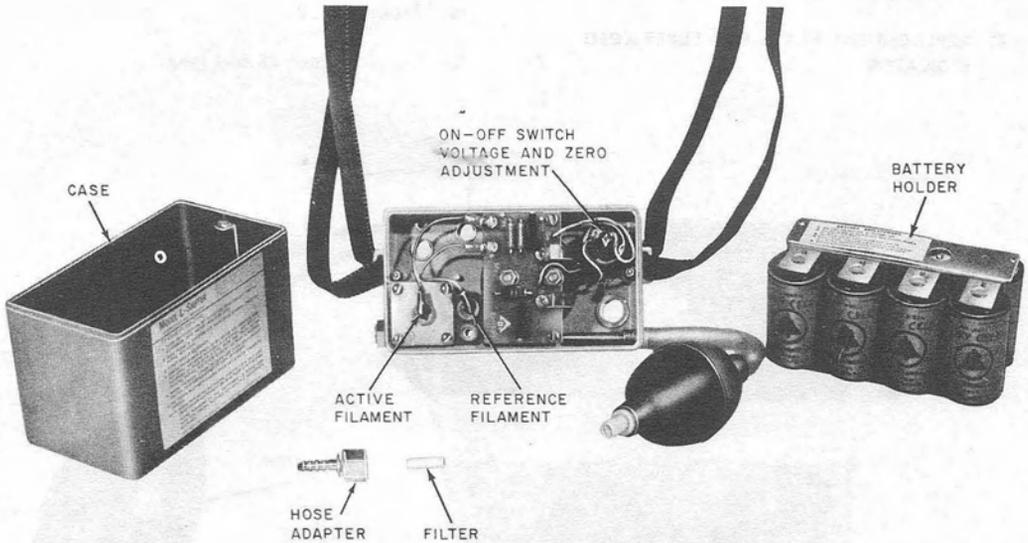

Fig. 2—E Gas Indicator Disassembled
5.01 Batteries: The eight KS-14711 batteries are held in the battery holder located in the bottom of the case. To replace the batteries, remove the cover of the instrument and pull the battery holder out. The battery holder removed is shown in Fig. 2. Never remove holder by pulling on the contacts; if the holder sticks in the case, hold it upside down and tap it gently on a solid surface. After new batteries have been installed, replace the holder. The holder can be replaced in only one position. This eliminates the possibility of replacing the holder incorrectly in the case, resulting in an inoperable indicator. The batteries should be replaced as a group. The batteries are